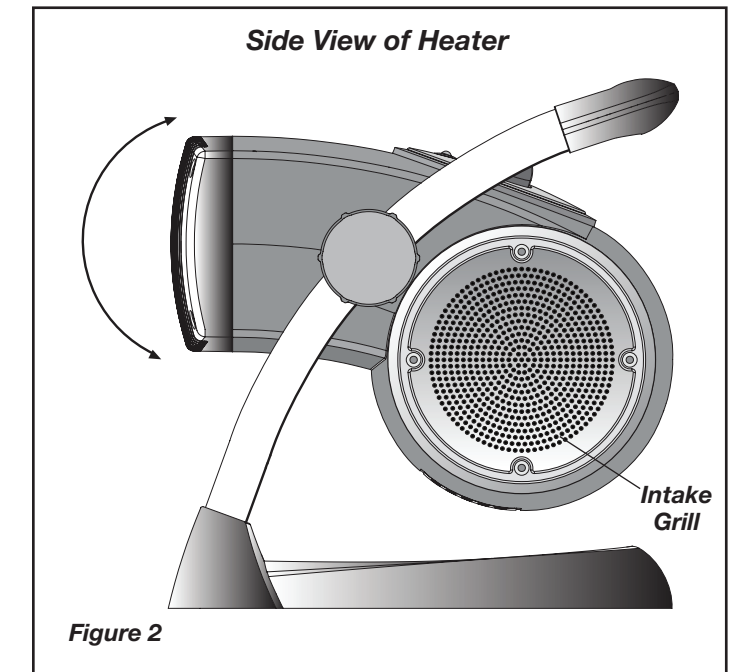

Figure 2
7. Move the **Power Knob** to the desired heat setting. High Heat (1500W) is represented by the (II) and Low Heat by the (I).
8. For Fan Only operation, turn the **Power Knob** to (F).
9. To adjust the angle of the Heater air flow, rotate the Heater body forward or backward to the desired position. (Figure 2)
11. To disconnect Heater, turn **Power Knob** to the "OFF" position (0), then remove plug from outlet.